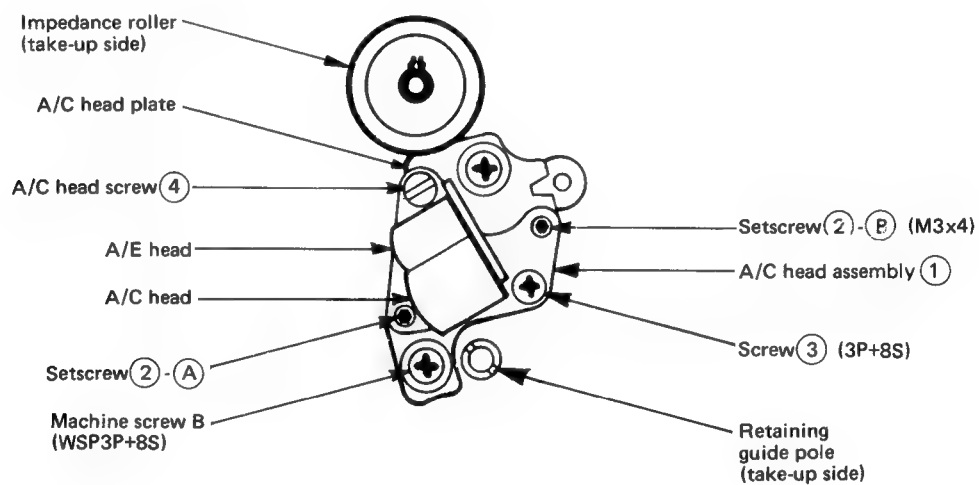

Figure 72.
If alignment is required proceed with the following adjustment. See Figs. 72 and 73.
4. If the tape running is not normal, adjust the screws ② - A and ② - B shown in Fig. 72 while turning them slowly.